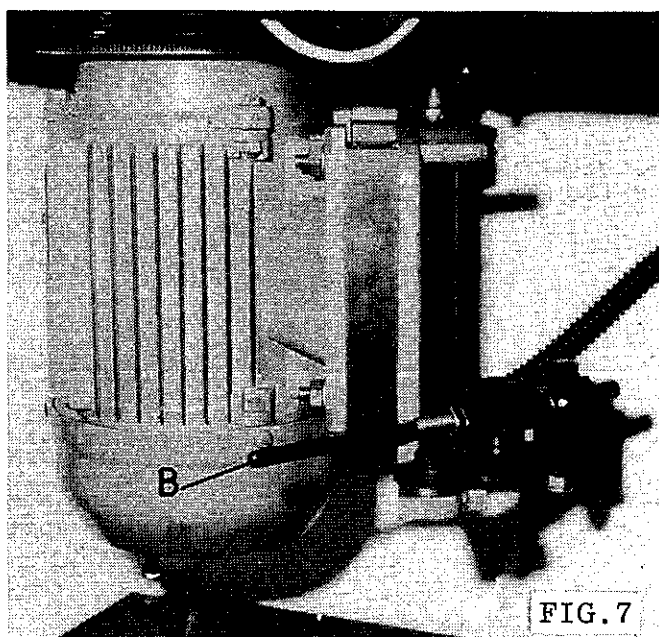

FIG. 7
- 4) Release belt tension by pulling lever "B" FIG.7.
- 6) Re-tension belt by pushing lever "B" FIG.7, forward.